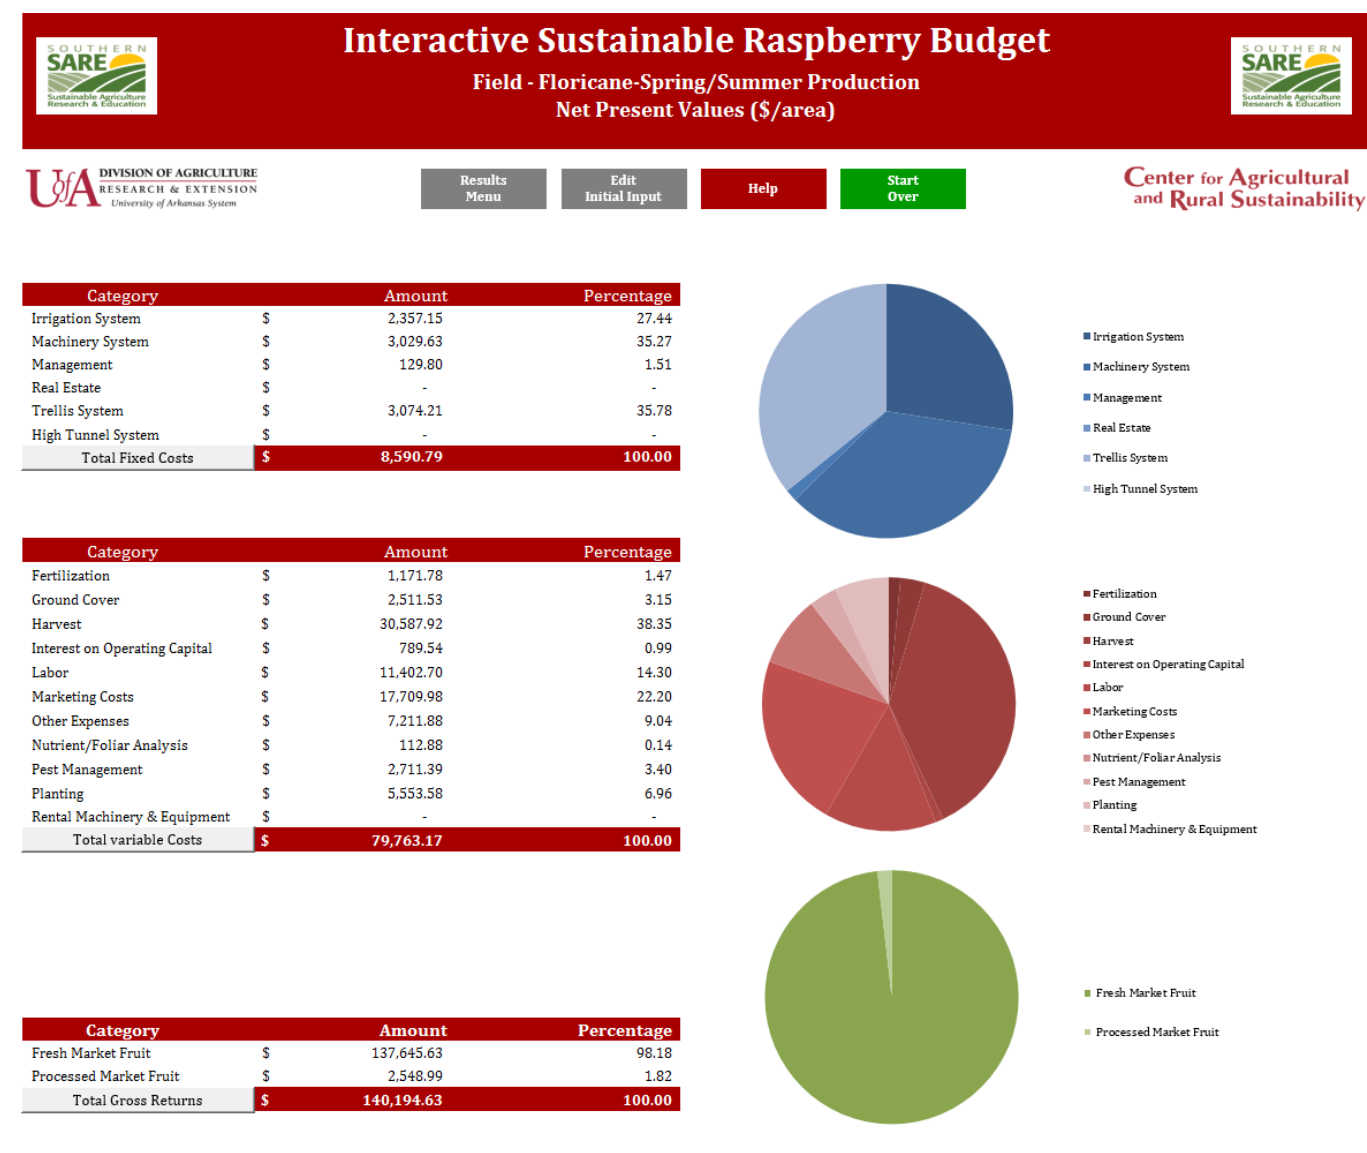

Figure 14: Percentages by Category Results Screen
3.4. Percentages by Categories – this option offers a graphical breakdown of the fixed costs, variable costs and gross returns estimated for the entire production period (Figure 14).